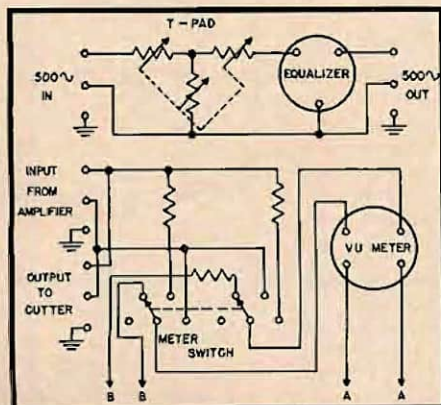

Fig. 2. The audio section of the control panel, in schematic form.
Figure 2 is a diagram of the audio section of the panel. The program material leaves the tape (on an Ampex "400") via a 500-ohm line, goes into the T-pad, through the passive equalizer, to give the proper high-frequency characteristic for microgroove (LP) or standard (78-r.p.m.) recordings, and out into a high-quality 30-watt power amplifier¹. From the output of this amplifier,